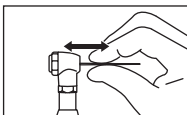

Fig. 3
- Make sure the file is mounted firmly by pulling before use. (Fig.3)